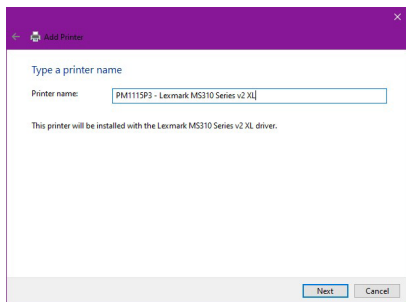

Figure 28
12. On the **Type a printer name** screen, enter a name for the **Printer**. Use any name that helps recognize the **Printer** once it's installed, e.g., PM1115P3 - Lexmark MS310 Series V2 XL. Click **Next**. (Figure 28)